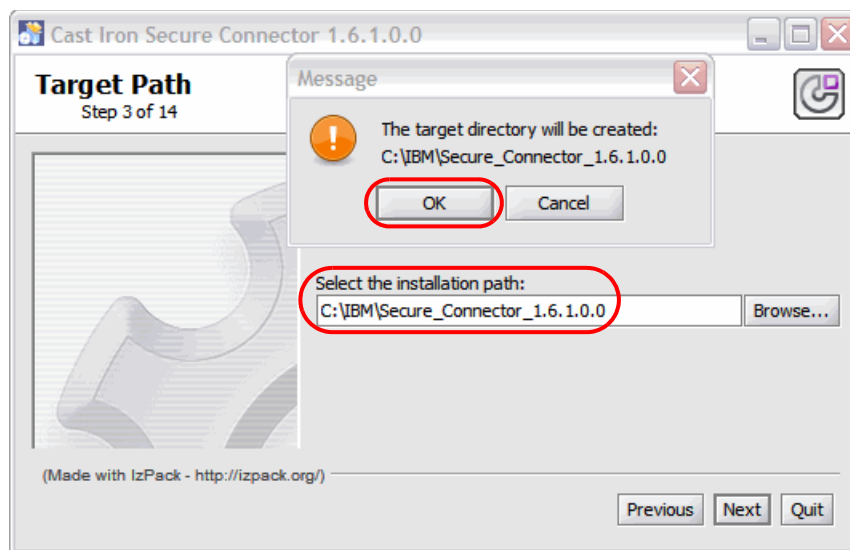

Figure 2-38 Cast Iron Secure Connector installation target path
7. You are informed that the target directory will be created, as shown in Figure 2-38. Click **OK**, and then click **Next** to continue.